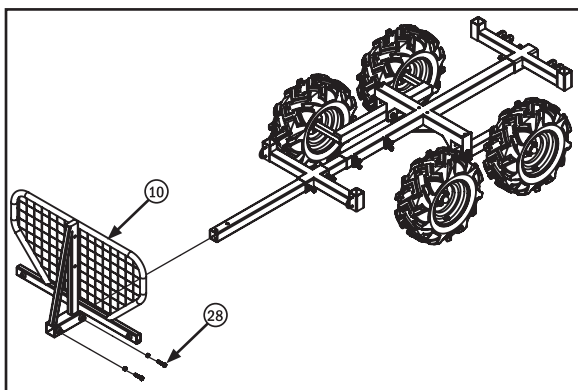

Fig. 12
Step 12: Install the operator Safety Guard. Place the Safety Guard (10) onto the Frame Extension Tube (17) so that the back face is about 7-8 in. (20 cm) from the end of the Front Bed Support (4), then use two M16x50 Bolts w/ Nuts (28) to secure it in place (Fig. 12) by backing off the lock nuts, tightening the bolts, then locking the bolts in place by tightening the lock nuts.